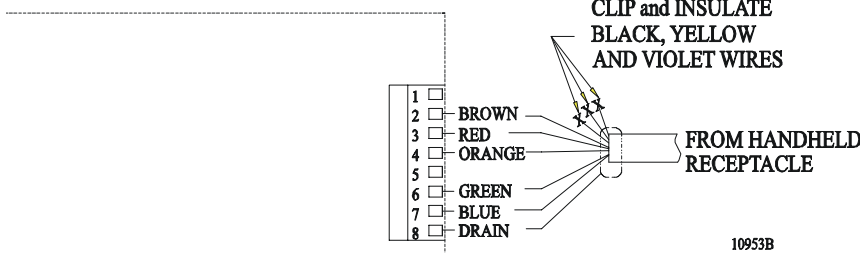

Figure 29: Typical Connections at Actuator/Processor
- G) Connect colors as shown on Figure 29:.